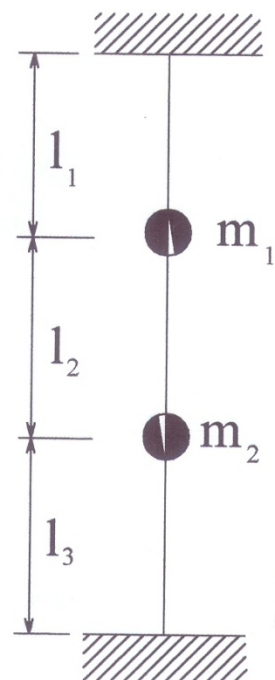

Figure 7
- 7- Figure 7 shows a system of two masses attached to a tightly stretched string, fixed at both ends. Determine the natural frequencies and mode shapes of the system for $m_1 = m_2 = m$, $l_1 = l_2 = l_3 = l$.